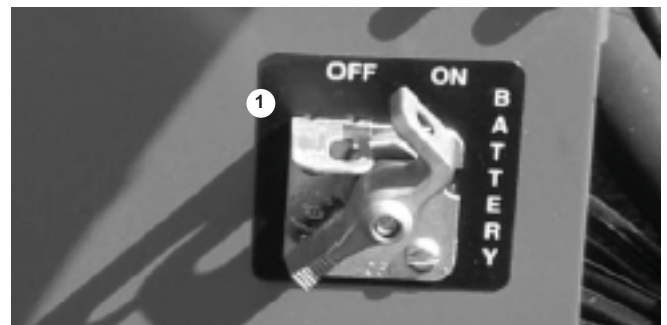

Figure 9.7
- Turn the battery switch (1) to off (see figure 9.7).